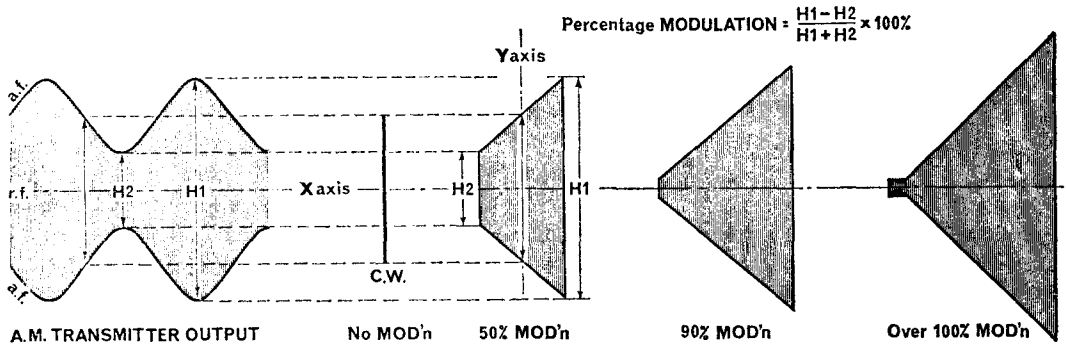

Fig. 10. Amplitude modulation
24. Percentage modulation measurement. The percentage modulation of an amplitude modulated transmitter can be conveniently measured on an oscilloscope if a built-in monitoring system is not provided. The unmodulated carrier wave is applied to the Y input of the oscilloscope with the timebase turned off. The trace produced is then adjusted with the volts/cm and Y gain controls until it is a convenient height (e.g. 4cm on the graticule). The modulator is then switched on and its output fed to the X input socket of the scope. This produces a display pattern of the type shown in figure 10. One hundred percent modulation will produce a triangular pattern and any extra modulation will cause a tail to form on the pattern.